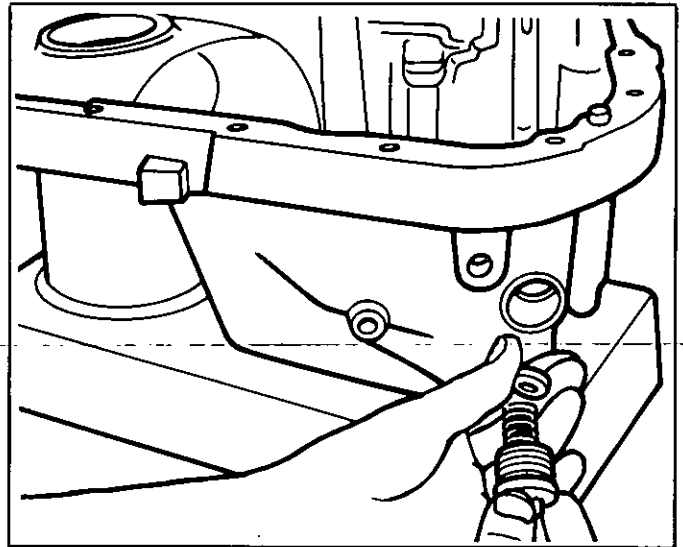

Figure 32 Remove Reverse Inhibitor Fitting
1. Remove reverse inhibitor fitting from exterior of case. From inside of case, remove the spring and pilot/spacer (Figure 32).